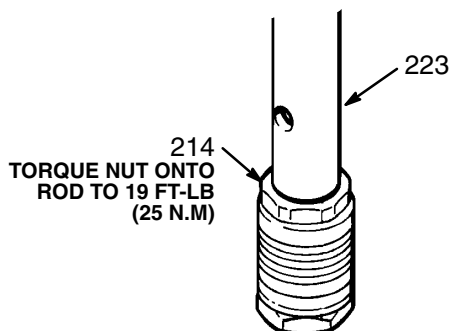

Fig 13
- Torque the nut (214) onto the rod (223) to 19 ft-lb (25 N.m). Use two wrenches to maintain the alignment as mentioned in the **NOTE**. See Fig 13.